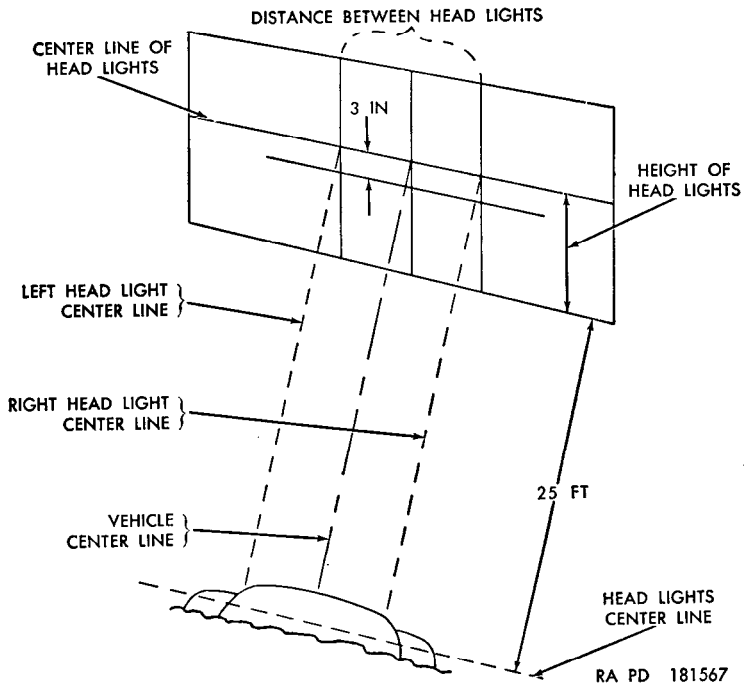
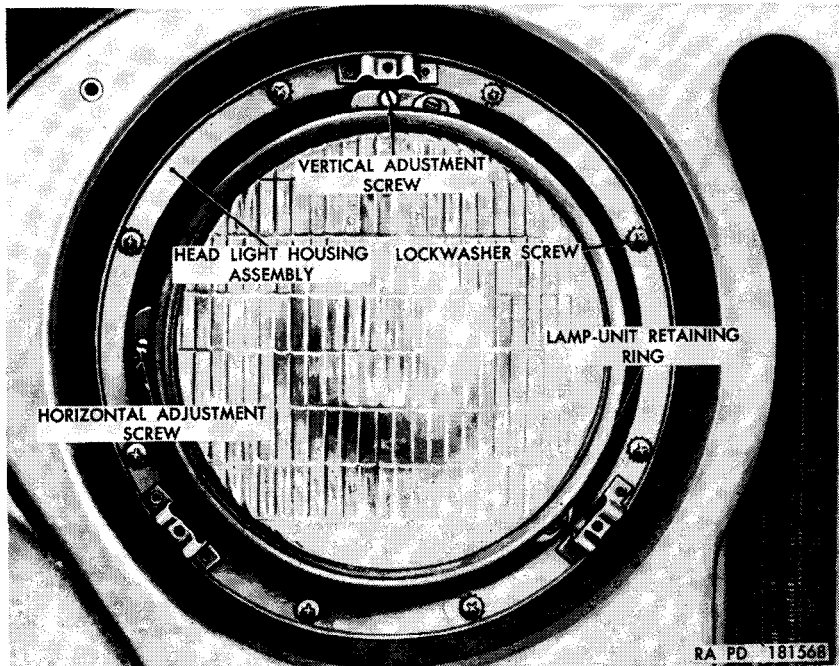
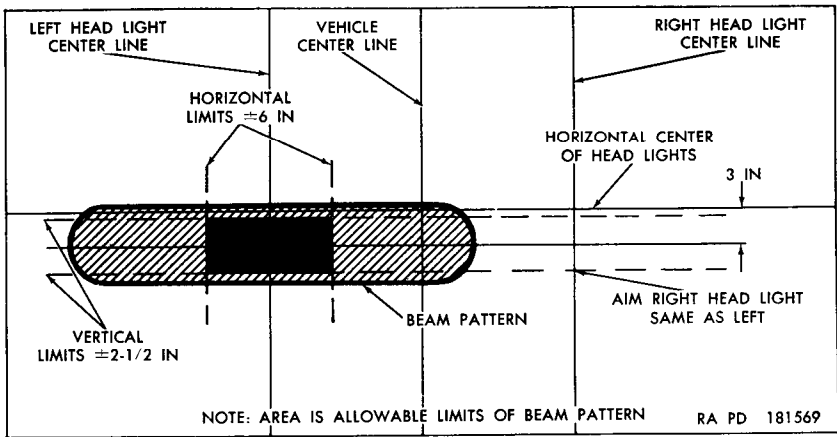

Figure 71. Headlight aiming chart.
Figure 72. Headlight adjustment screws.
Figure 73. Headlight beam pattern.
b. Headlight Adjustment. Place the vehicle on a level surface and arrange a wall target as shown in figure 71. Remove the headlight guard and door assembly (a(1) above). Cover headlight not being adjusted. Turn on the headlights (par. 33) and be sure that the high beam is on (par. 40). Aim the headlight by turning the adjustment screws (fig. 72), as required, until the headlight beam conforms with the headlight beam pattern (fig. 73). Turn off the headlights. Install the door and guard (b(2) above).
(1) Remove the headlight sealed lamp-unit (a(1) above).